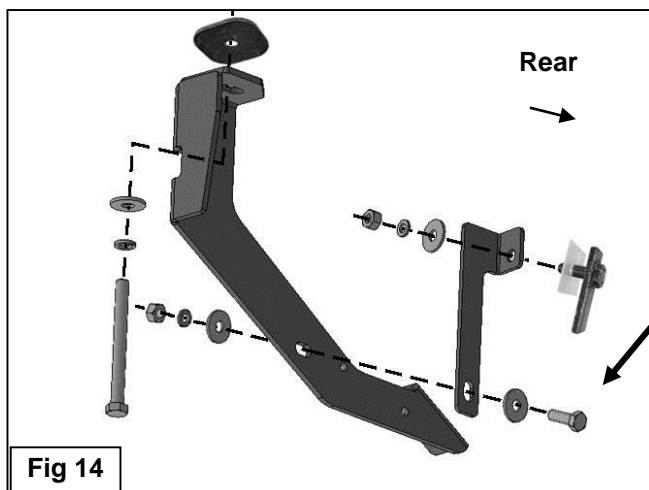

Fig 14
10. Repeat **Step 7** to attach the flat lower end of the Support Bracket to the front of the rear Mounting Bracket, **(Figure 14)**. Snug but do not tighten hardware at this time